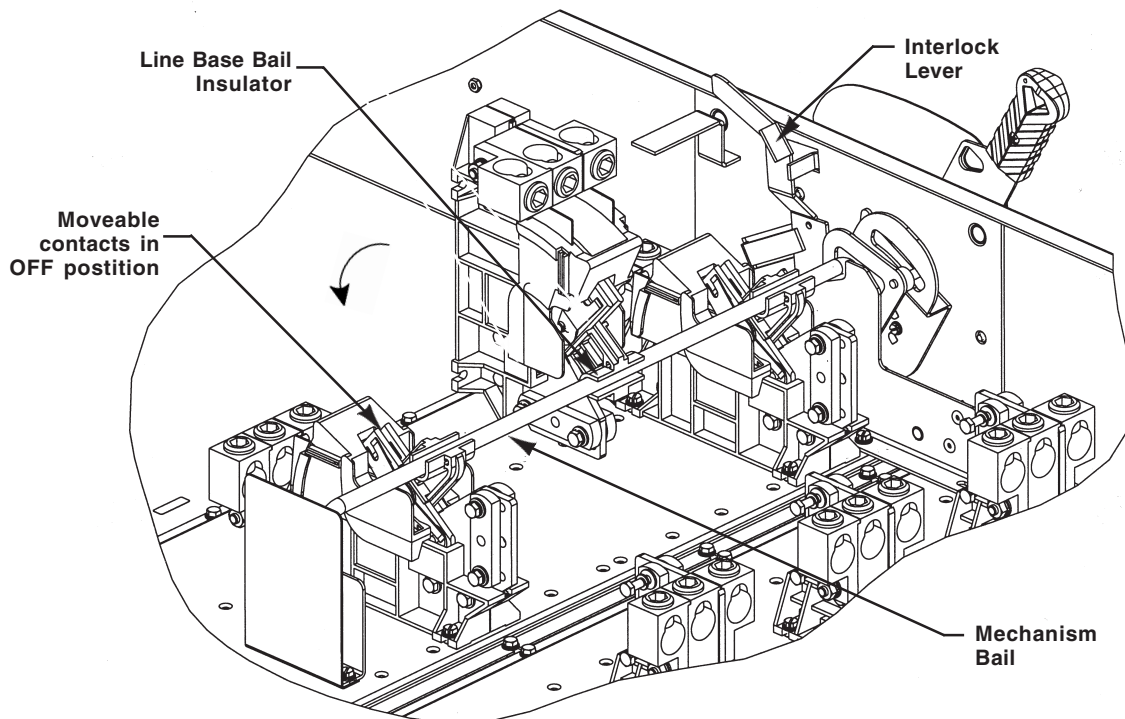

Fig. 2
3. Verify that the Moveable Contacts are in the **OFF** position. **See Figure 2.**
11. Place Line Base Bail Insulator into Mechanism Bail and rotate new Line Base assembly into position, see **Figure 2**. Slide Line Base assembly into Mounting Screws left loosened above. Insert the two (2) remaining  $\frac{1}{4}$  - 20 x  $\frac{1}{2}$ " Mounting Screws but do not tighten.
- a. Move the Safety Switch Handle to the **ON** position (Hold Interlock Lever below the front of the enclosure to operate switch with the door open. **See Figure 2**)